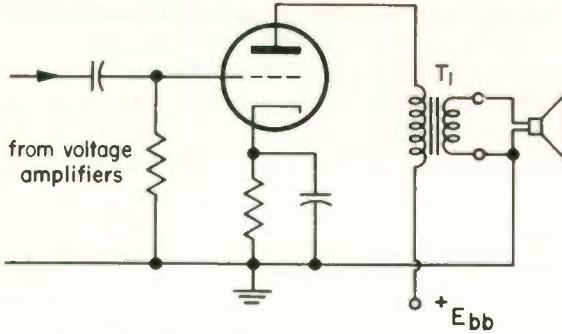
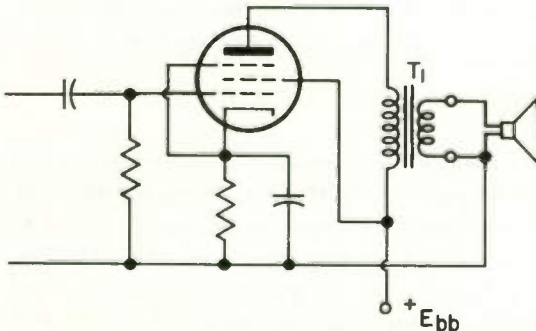

Fig. 14 A triode power amplifier with loudspeaker load.
Fig. 15 A pentode power amplifier with loudspeaker load.
13 IMPEDANCE MATCHING . . . For the greatest power transfer from a power source to a load, the impedance of the load must be equal to the impedance of the power source. The two impedances are then said to be matched. When the load has an impedance greatly different from the source impedance, a match between the two can be obtained by the use of a transformer. For example, in the circuit shown in Fig. 14 it is desired to use the output signal from the tube to drive the
A schematic diagram of a triode power amplifier connected to a loudspeaker load through a suitable output transformer is shown in Fig. 14. Pentodes and beam power tubes are also commonly used, because they require much lower input signals for the same power output. The schematic diagram for such a circuit is shown in Fig. 15. Plate and screen are often operated at the same potential in power pentodes, as is done in Fig. 15.
2. In order to get maximum power to the speaker in Fig. 14, the tube plate (a) _____ must be (b) _____ to the loudspeaker impedance. This is accomplished by use of an output (c) _____.
6. See Fig. 15.